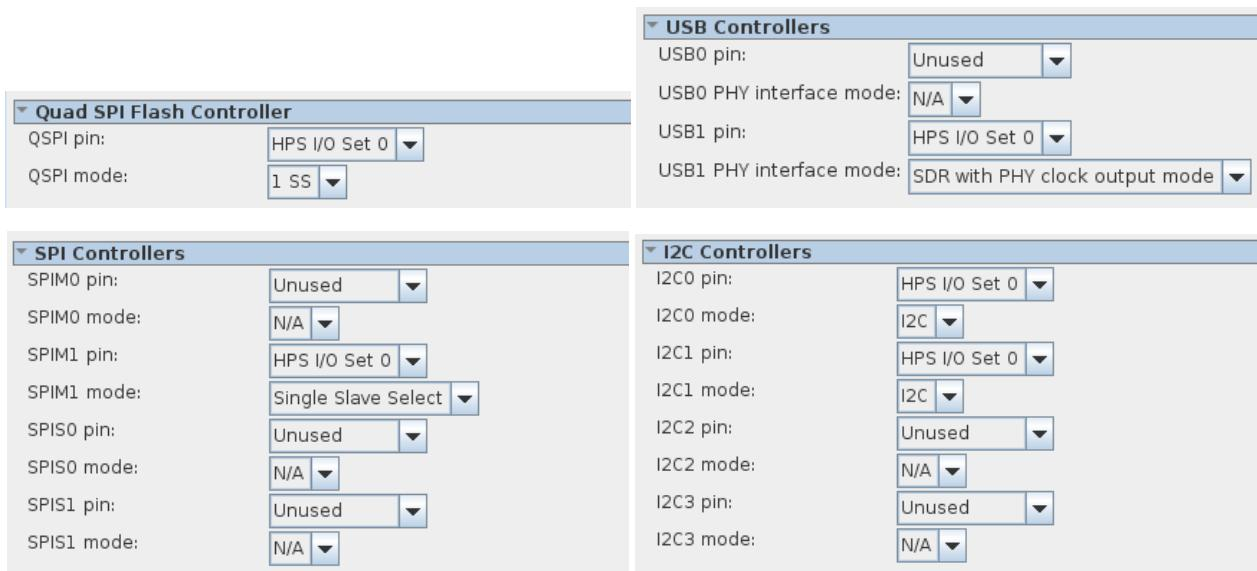

Figure 9-12. Quad SPI Flash, USB, SPI, and I²C peripheral pin configurations
- Configure the Quad SPI Flash controller, USB controllers, SPI controllers, and the I²C controllers as shown in Figure 9-12.